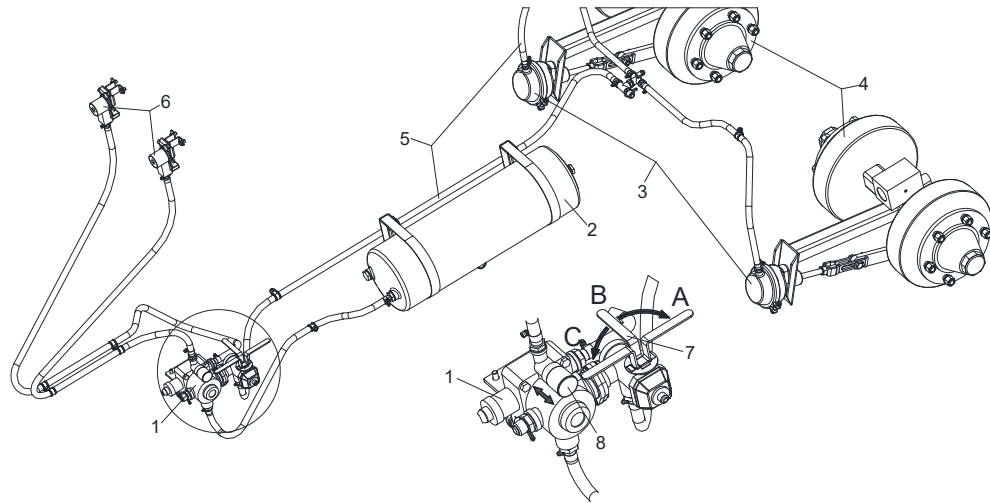

Fig. 20 Air brake system
- Brake valve (Fig. 20/1) with test connection (Fig. 20/8) and brake force regulator (Fig. 20/1)
- Compressed air reservoir (Fig. 20/2).
- Diaphragm cylinder (Fig. 20/3)
- Brake axles (Fig. 20/4)
- Couplings (Fig. 20/6) Supply line / brake line